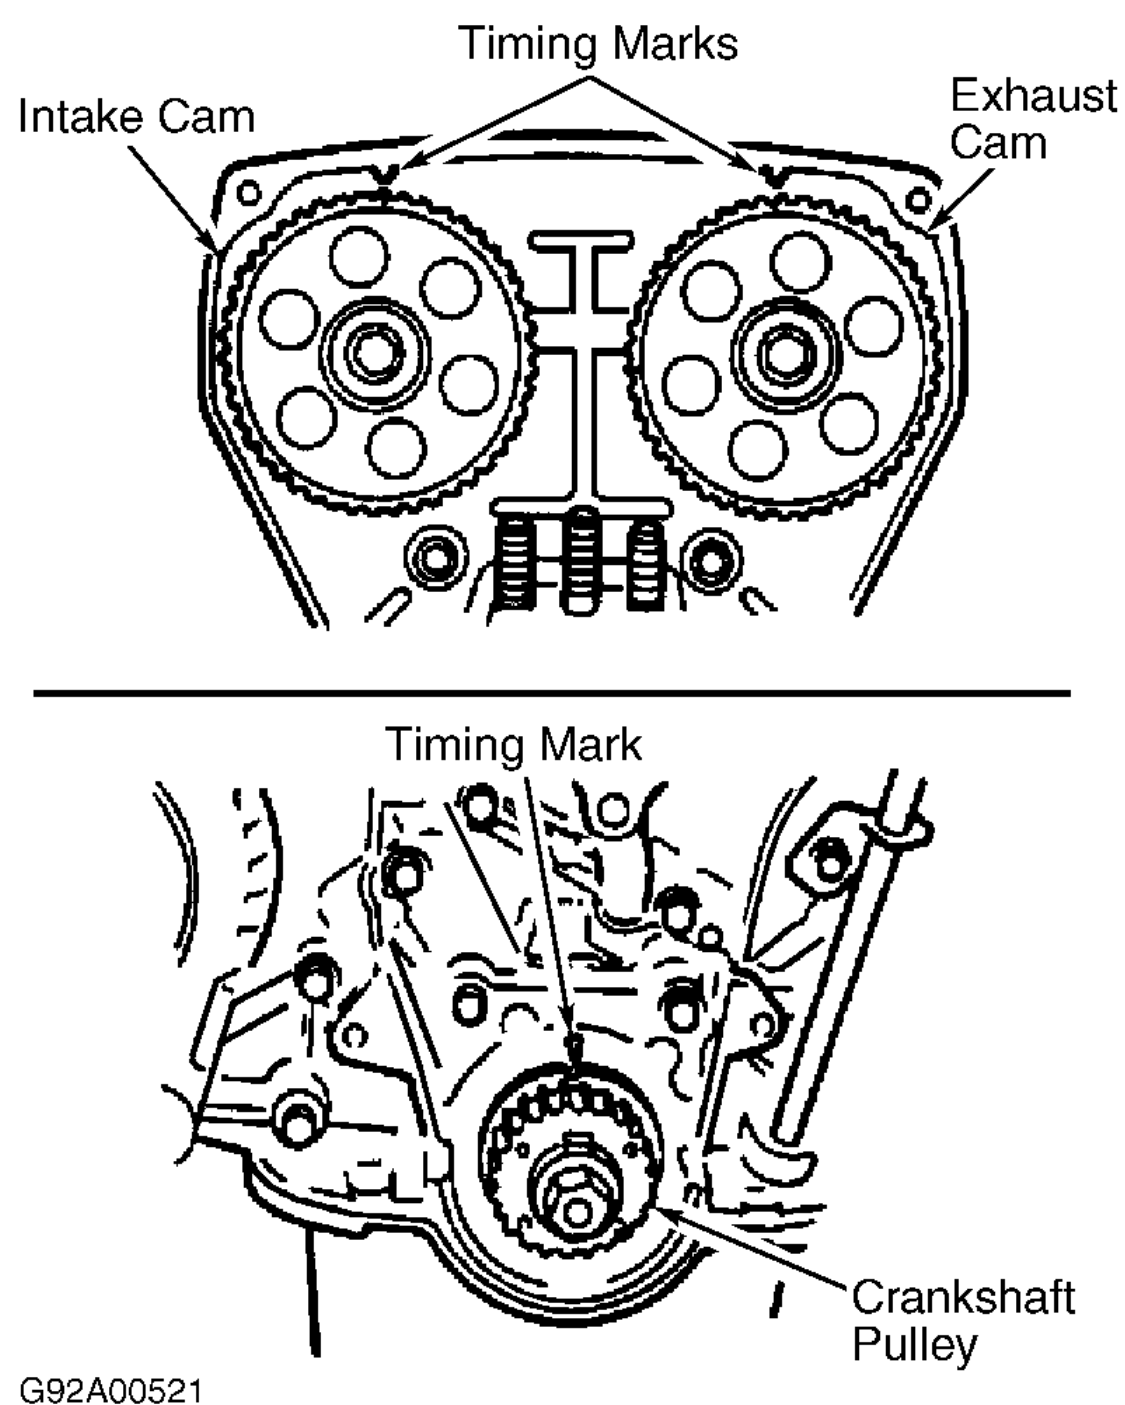

Fig. 4: Aligning Camshaft & Crankshaft Timing Marks (1.6L)
1. Ensure timing belt and sprockets are clean and not worn or damaged. Ensure timing marks are properly positioned on camshafts and crankshaft. Intake cam should have letter "I" aligned with arrow on belt cover. Exhaust cam should have letter "E" aligned with arrow on belt cover. Crankshaft key should align with arrow. See Fig. 4.